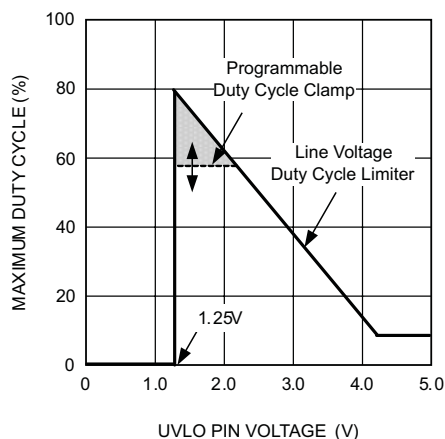

**Figure 18. Maximum Duty Cycle vs UVLO Voltage**
**Line Voltage Duty Cycle Limiter** - The maximum duty cycle for the main output driver is also limited by the voltage at the UVLO pin, which is normally proportional to  $V_{IN}$ . The controller outputs are disabled until the UVLO pin voltage exceeds 1.25 V. At the minimum operating voltage (when  $UVLO = 1.25$  V) the maximum duty cycle starts at the duty cycle clamp level programmed by the DCL pin voltage (80% or less). As the line voltage increases, the maximum duty cycle decreases linearly with increasing UVLO voltage, as shown in Figure 18. Ultimately the duty cycle of the main output is controlled to the least of the following three variables: the duty cycle controlled by the PWM comparator, the programmable maximum duty cycle clamp, or the line voltage dependent duty cycle limiter.